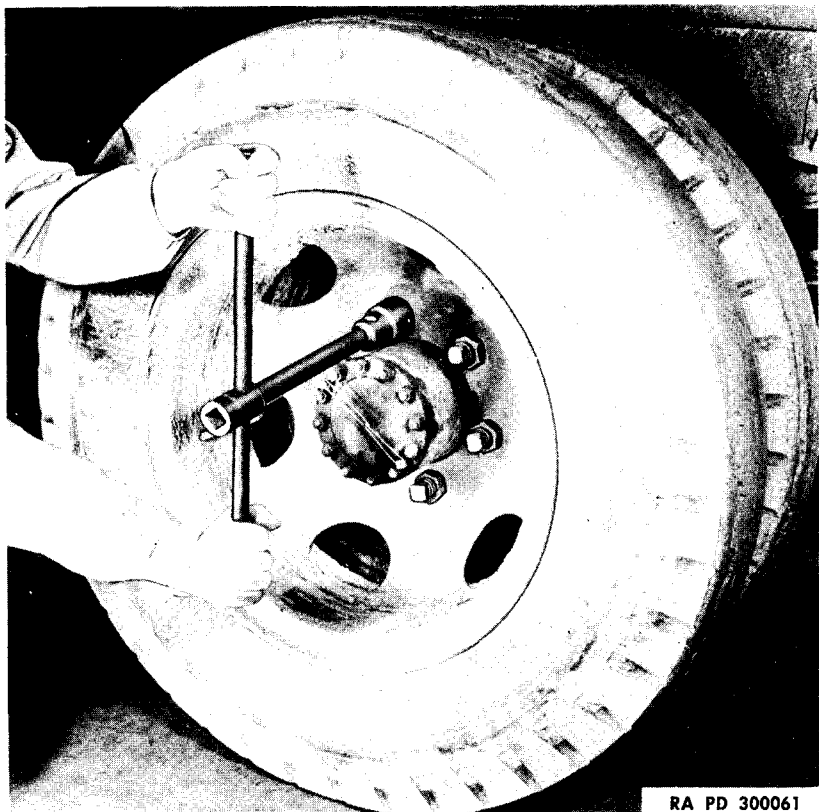

Figure 99—Removing Rear Wheel
a. **Wheel and Tire Removal.** Loosen six wheel stud nuts about ½ turn each (fig. 99). Jack up wheel to clear ground. Completely remove six wheel stud nuts and lift wheel from truck.
a. **Wheel and Tire Removal.** Partially loosen each of six outer and six inner stud nuts (fig. 99). Jack up axle until wheels clear